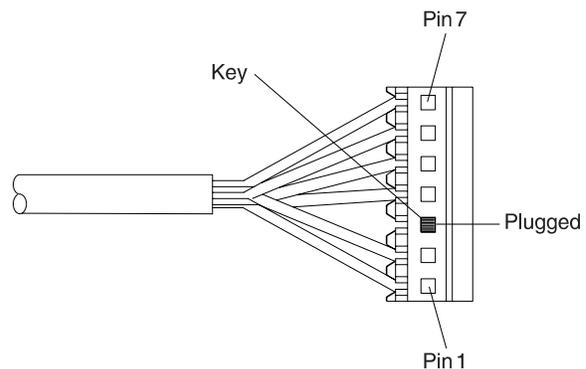

Figure 6-33. DI Motor Cable Connector
– Disconnect the DI motor cable from J3 on the printer card. See Figure 6-38 on page 6-65 for the locations of the printer card connections. See Figure 6-33 for the locations of the cable connector pins.